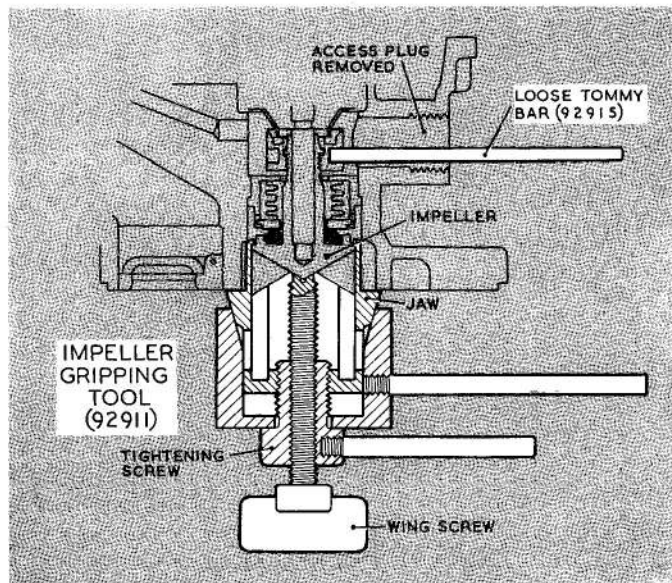

Fig. 2. Tool for gripping impeller
through the access aperture. Then insert one end of the tommy bar, Part No. 92915 (fig. 2) into the hole in the impeller nut. This will enable the nut to be held stationary whilst using the impeller gripping tool (Part No. 92911) as described in the next paragraph.
9. Hold the gripping tool (fig. 2) in one hand and with the other hand turn the brass tightening screw by means of its short tommy bar until the jaws of the tool open sufficiently to pass over the impeller. Turn the wing screw well back to ensure that it will not foul the end of the impeller and so prevent the tool being pushed right over the impeller. Push the tool over the impeller till it covers the blades and rotate the short tommy bar until the jaws close on the impeller. Then tighten the wing screw until the lip at the edge of the jaws engages on the back of the impeller (fig. 2). When this has been done, carefully tighten the jaws just sufficiently to grip the impeller; do not use force or the impeller will be damaged. Now remove the impeller from the shaft by turning the tool whilst, at the same time, holding the impeller nut stationary, afterwards pulling the impeller squarely off the shaft.
25. Take particular care to ensure that the gland sealing face and impeller carbon ring are absolutely clean before fitting the impeller. Grip the impeller in the gripping tool (*para. 9*) and feed the impeller on to the impeller shaft, engaging the driving pin on the shaft in one of the four slots in the impeller. Whilst this is being done, guide the impeller nut on to the tapered neck of the impeller chuck by means of a suitable soft metal implement inserted into the impeller access aperture. When the face of the impeller gripping tool touches the forward face of the impeller chamber, the impeller will be in its correct axial position on the shaft and the impeller nut must then be tightened by holding it with the tommy bar (*fig. 2*) whilst the impeller is rotated by means of the gripping tool. Care must be taken not to bend the impeller shaft during this operation.